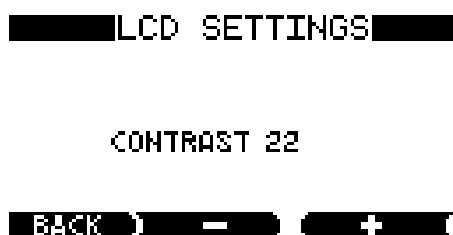

Figure 12: LCD settings screen
The LCD SETTINGS menu is used to adjust LCD display contrast. To open the LCD SETTINGS menu highlight the LCD SETTINGS option in the SETUP menu (see Figure 5) and select by pressing the ENTER button. Figure 12 below shows the display with the LCD contrast value selected for setting. The + and – buttons allow value of the display contrast to be adjusted for best visibility.
- 5iv) Use the right-hand button labelled with an arrow to scroll through the menu. Highlight LCD SETTINGS then press the central ENTER button. This brings up the LCD SETTINGS SCREEN, shown in Figure 12.
- 7iv) Use the right-hand button labelled with an arrow to scroll through the menu. Highlight RESOLUTION then press the central ENTER button. This brings up the resolution screen, shown in Figure 12 in its percentage mode. If the gas concentration is low it will show in parts per million, ppm.